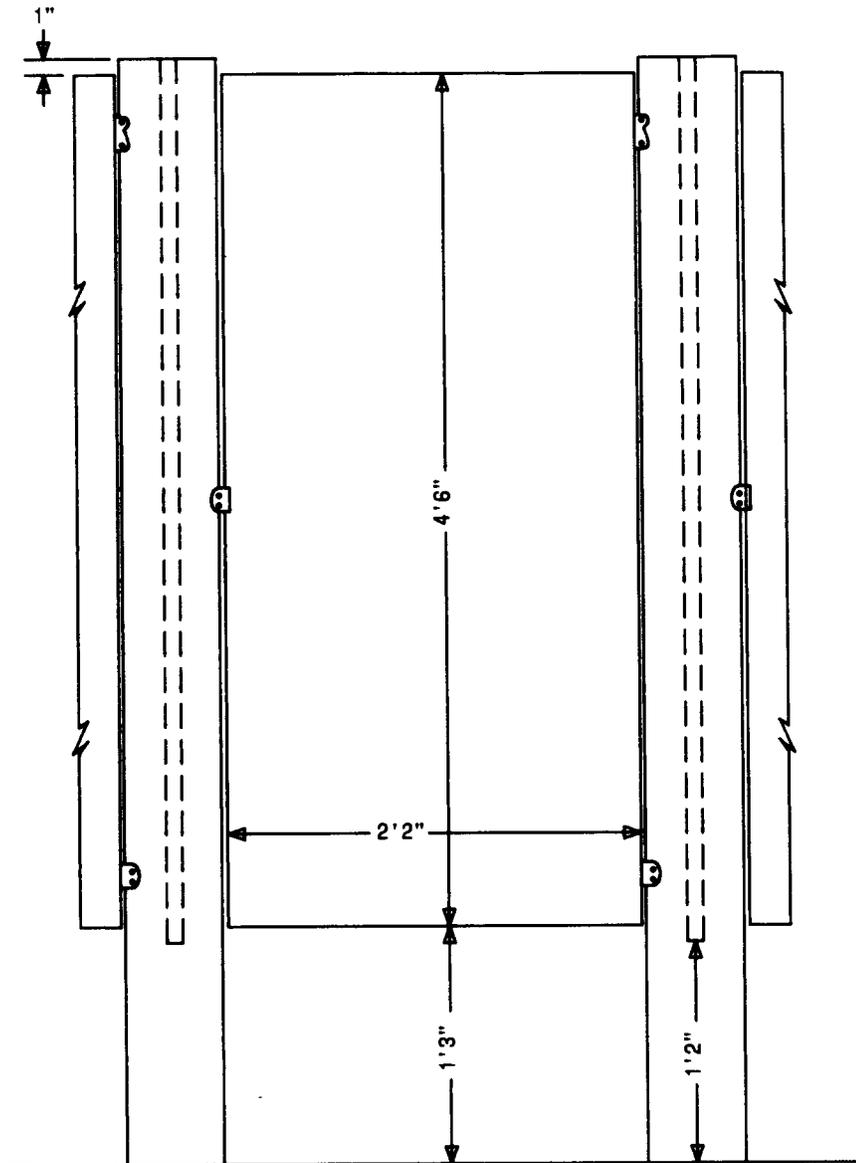

Fig. 5—Conventional Stall (Front View)
3.04 Vestibule partitions and outer partitions of end stalls should extend down to the floor. Intermediate stall partitions are set above the floor as indicated in Fig. 5 for ventilation and maintenance purposes. ♦In stalls for use by the physically handicapped, the front partition and at least one side partition must provide a toe clearance of at least 9 inches above the floor. If the depth of the stall is greater than 60 inches, the toe clearance is not required. ♦Where the normal provision of a house service closet is impracticable, it may be necessary to locate the service sink in a toilet stall compartment; in such cases, the service sink stall partitions are extended to the floor and the lower edge of the door is set about 6 inches above the floor.